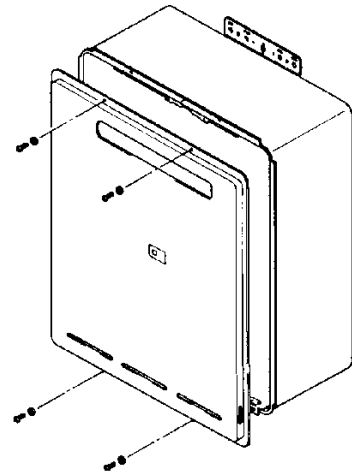

fig.1
2. Remove the front cover from the Appliance (4 screws) fig. 1.
7. Remove the front cover from the Appliance (4 screws) fig.1.
12. Remove the front cover from the Appliance (4 screws) fig. 1.
For the Controller in the 'KITCHEN' only, press and hold the 'Transfer' and 'On/Off' buttons simultaneously (see fig. 1) until a 'beep' is heard (approximately 5 seconds).
For the controller in the KITCHEN only, press and hold the 'Transfer' and 'On/Off' buttons simultaneously (see fig 1.) until a 'beep' is heard (approximately 5 seconds).